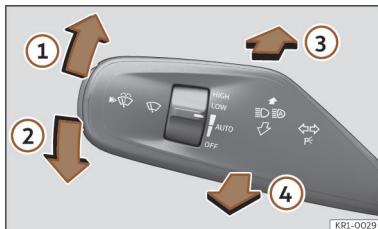

Fig. 93 Turn signal and main beam lever.
- From the base position, press the turn signal and main beam headlights lever forwards >>> **Fig. 93** .
- **EITHER**: if main beam assist is on, pull the turn signal light and main beam headlights lever back >>> **Fig. 93** .